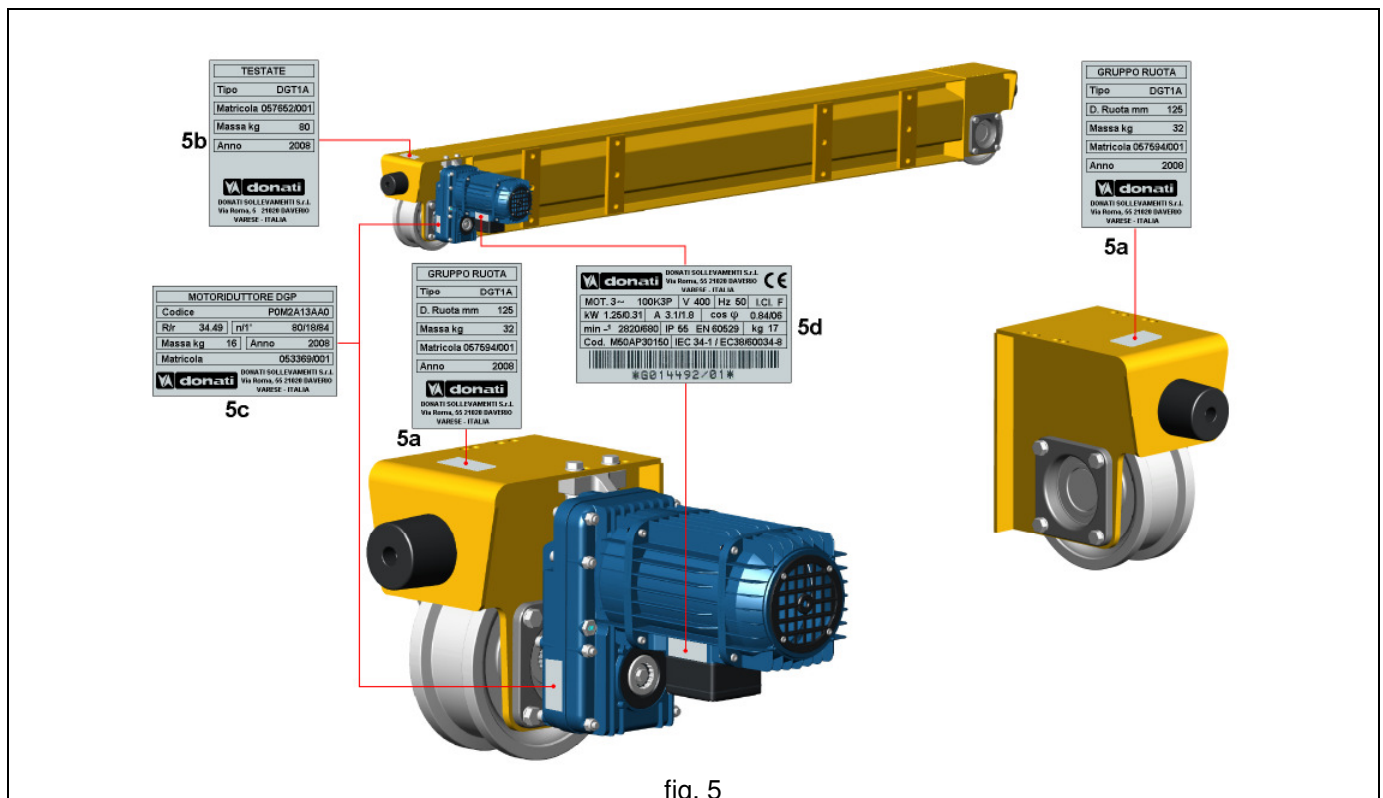

fig. 5
- “DGT” drive units and endcarriages are equipped with the following identification nameplates (fig. 5):